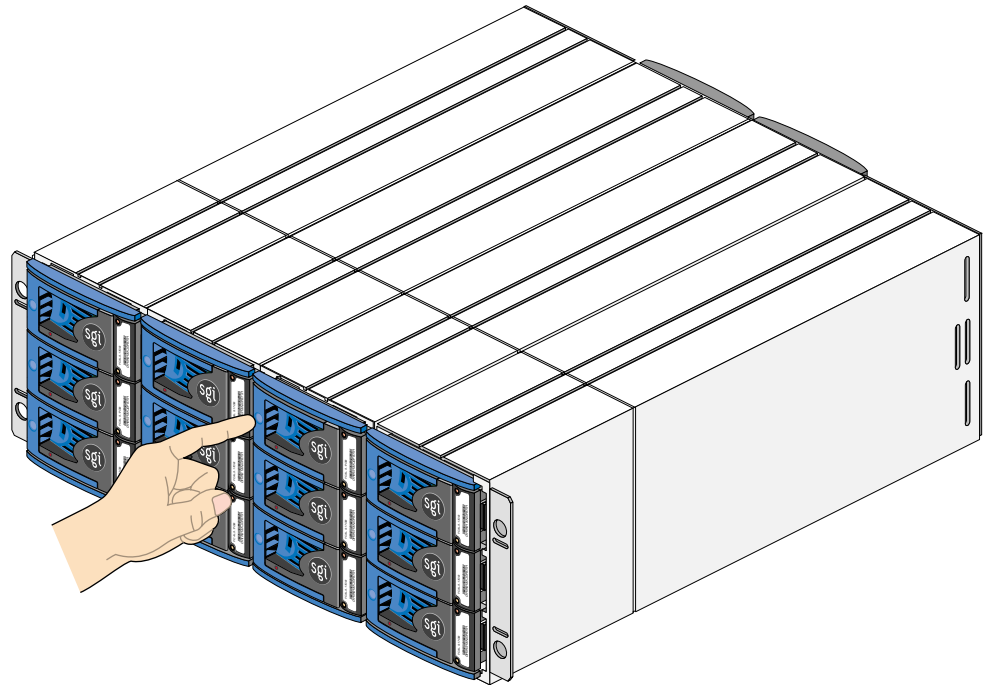
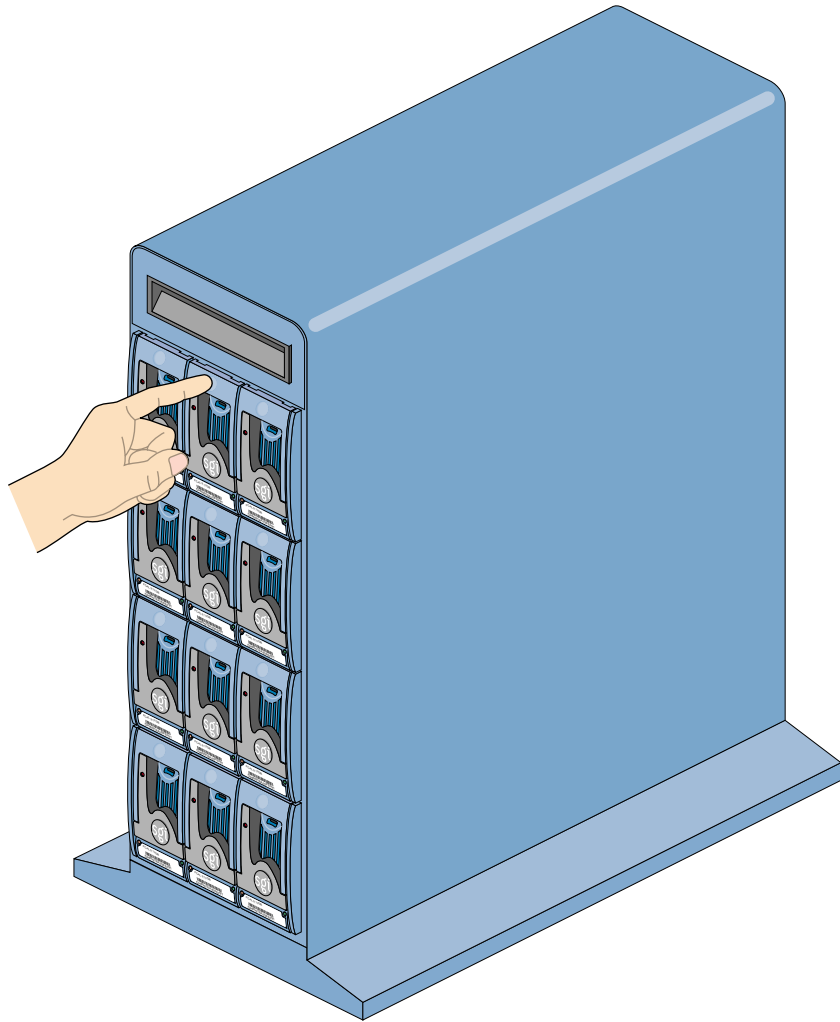

Figure 6-8 Engaging the Camming Lever: Rackmount Enclosure
Figure 6-9 Engaging the Camming Lever: Tower
7. Press on the drive handle to seat the drive. The camming lever on the right of the module engages with a slot in the chassis. Figure 6-8 shows this operation in a rackmount enclosure; Figure 6-9 shows it in a tower.